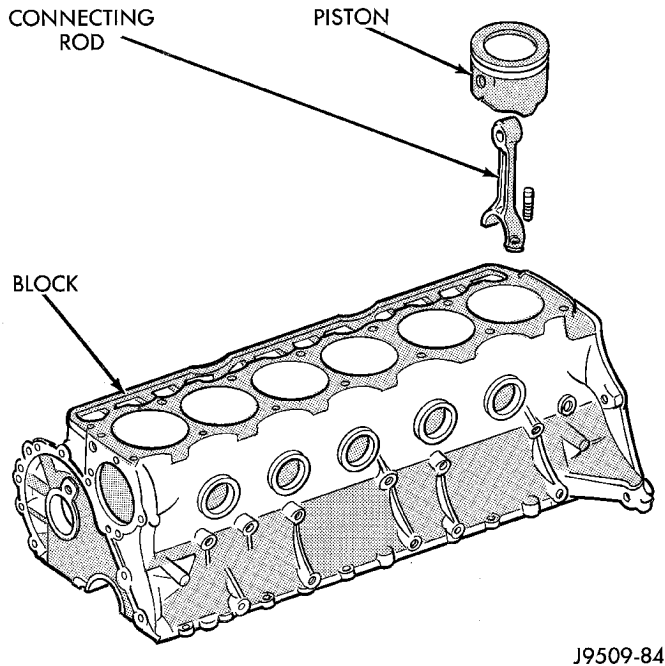

Fig. 58 Removal of Connecting Rod and Piston Assembly
(11) Have an assistant push the piston and connecting rod assemblies up and through the top of the cylinder bores (Fig. 58).